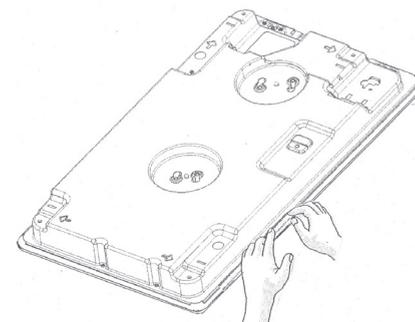

Fig. 1
- After the electrical connection, fit the hob from the top and hook it to the fixing springs, as shown in fig. 1.